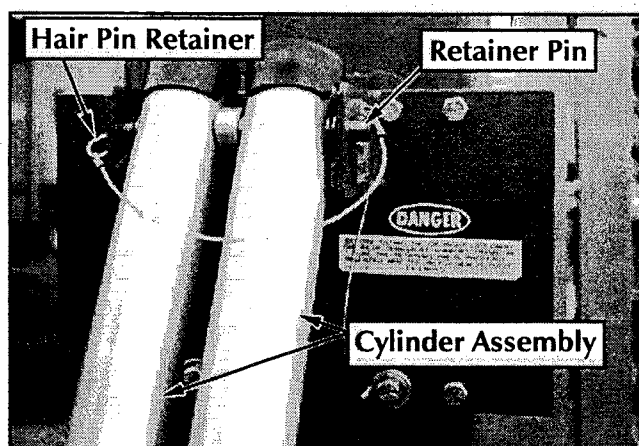

Figure 3-13: Cylinder Assembly secured with retaining pin
2. While holding Tilt Back frame, remove the retaining pin and lower the caster frame until the hole in the cylinder assembly aligns with the upper mounting bracket pin hole, Figure 3-13.
3. Attach the cylinder assembly to the upper mounting bracket using the retaining pin and hair pin retainer, Figure 3-13.